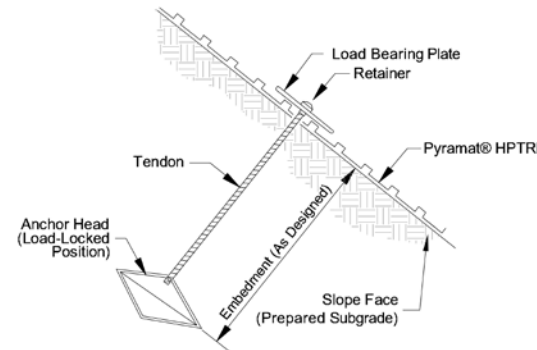

FIGURE 10: EARTH PERCUSSION ANCHOR DETAIL
- Earth Percussion anchors are made of corrosion resistant aluminium alloy, gravity die cast and heat treated to give considerable increase in mechanical strength and durability both during installation and in service, connected to a stainless steel tendon to fully enhance corrosion resistance particularly at the soil/air interface. Non-structural applications are typically designed using Type 2 earth percussion anchors. Earth percussion anchor length, anchor size, and washer width shall be determined and approved by Engineer (see Figure 10).